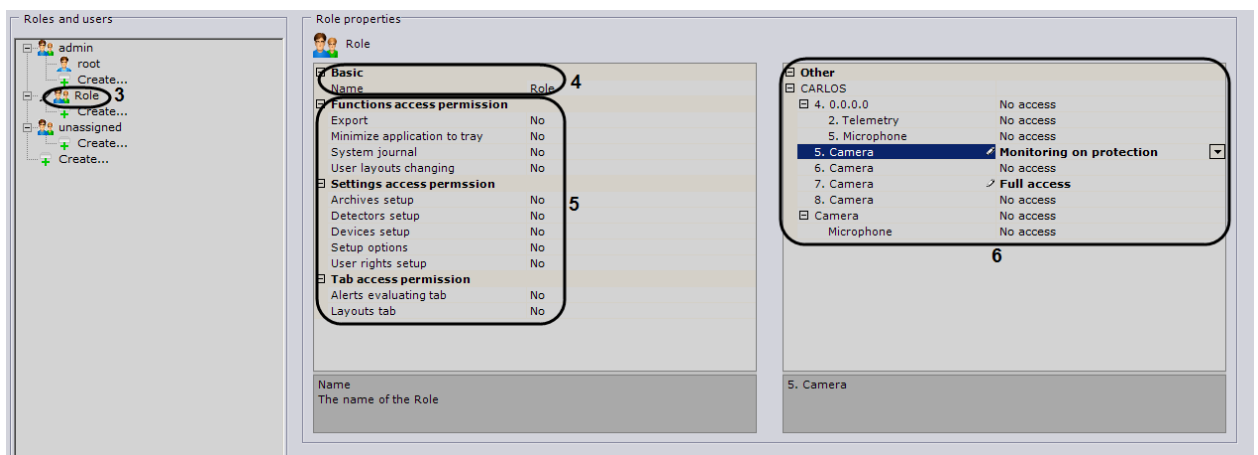

Fig. 6.12—2 User rights setup panel
4. Assign a name for the role in the **Basic** role properties (see Fig. 6.12—2, 5).